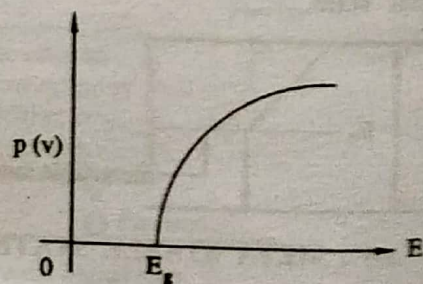

FIG. 3.6 : GRAPH OF P(V) VERSUS E
- Now we will plot a graph (Fig. 3.6) of $\rho(\nu)$ versus E . In this graph when $h\nu > E_g$, it will provide inter band transition.